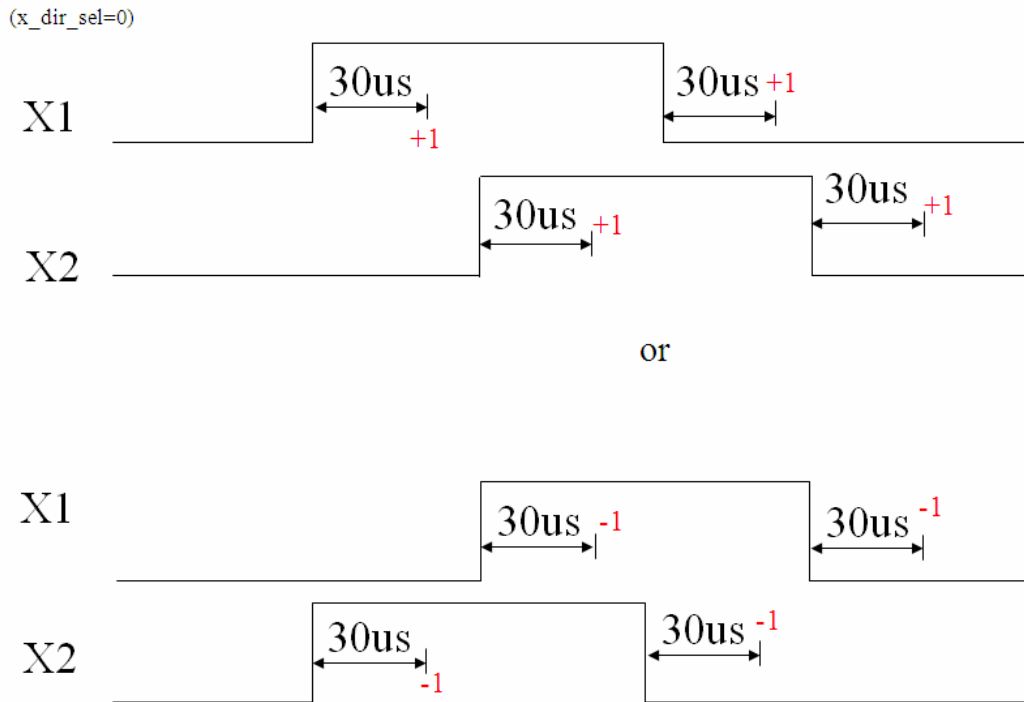

Figure 13-1 The behavior of the counter of x(y)-axis when x(y)_dir_sel=0
The detection of x-axis is to compare the two inputs of x-axis(say x1 and x2). According to the criterion in Fig 13-1 and Table 13-1, hardware stores the counted value in a counter(x_count) and software can determine the movement of the mouse. The +1/-1 event occurs when (1) x1 or x2 change and (2) lasts for 30us without other x2 or x1 change. Figure 13-1 and Table 13-1 shows the details in case of x_dir_sel=0, if x_dir_sel=1, the value 1 and -1 are swapped.